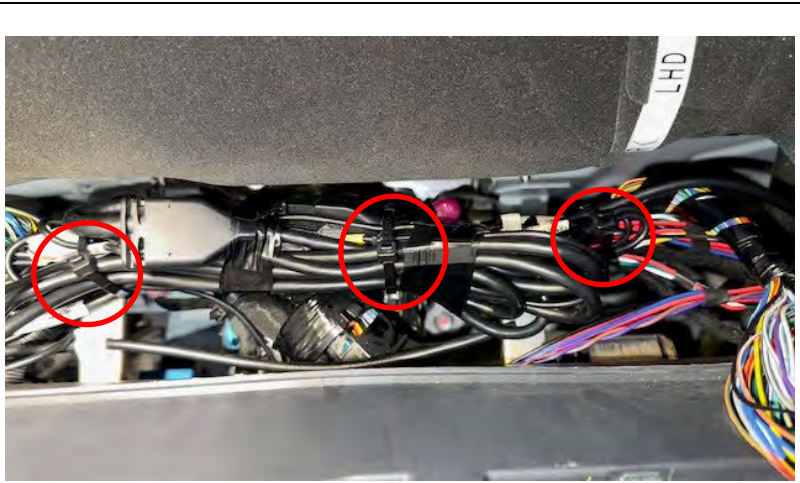

Figure 84
94. Secure the bundled Mobileye harnesses to the IP harness using three (3) zip ties. (See Figure 84.)